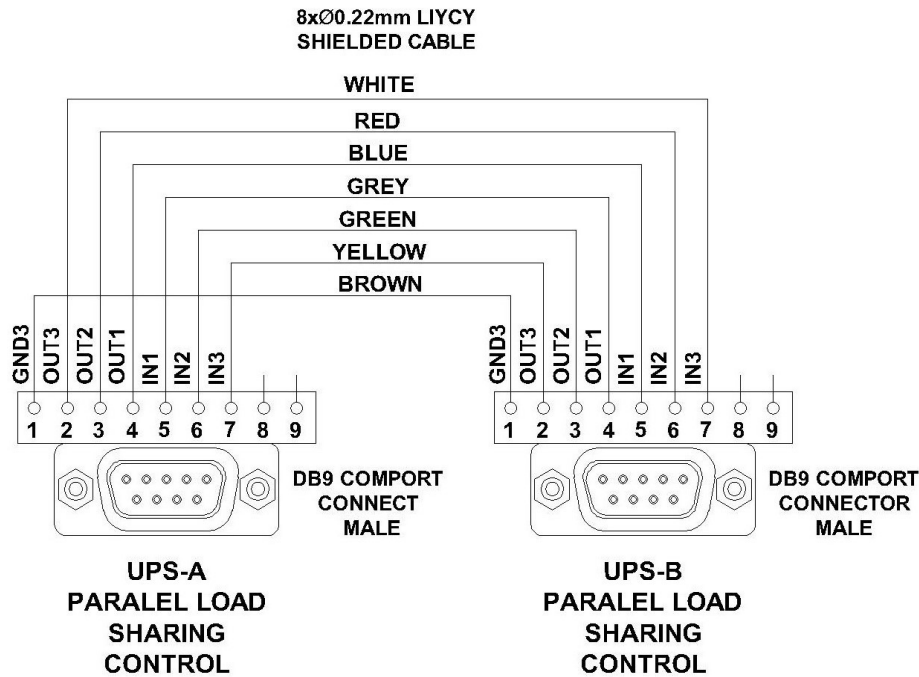

Figure 14. Paralleling cable between two UPS, port 5 connections.
3. If everything is ok in 1 & 2 step; turn off each UPSs from TFT, see load on bypass for them, now you can connect paralleling cable between two UPS (Port 5) like you see in Figure 14. And check again UPS monitor values, turn on each ups from TFT panel, check again UPS monitor values, see load on inverter for each UPS mimic.